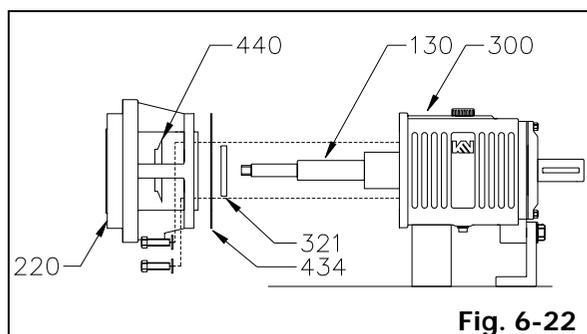

Fig. 6-22
1. Support bearing frame (300) securely to workbench. Remove four (4) frame adaptor bolts.
2. Remove frame adaptor (220) together with deflector (440) from shaft (130).
3. Remove oil seal (321) from frame adaptor (220).
4. Remove and discard frame adapter gasket (434). Replace new gasket during reassembly (Fig. 6-22).